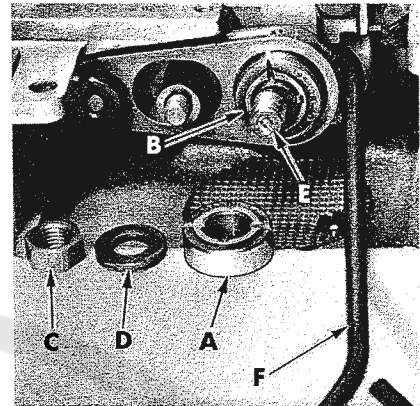

Fig. 20
Length of stitch is determined by the combination of feed eccentrics used. Outer (left) eccentric (A, Fig. 20) actuates main (rear) feed dog; while the inner (right) eccentric (B) actuates the differential (front) feed dog.